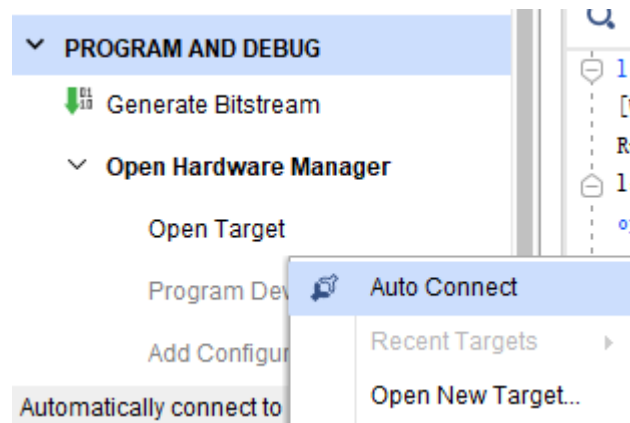

Figure 12: Hardware Manager, Auto Connect to Target Device
- 6.5 Expand the *Open Hardware Manager* option and click *Open Target* option. Click on the *Select Auto Connect* option as shown in **Figure 12**.